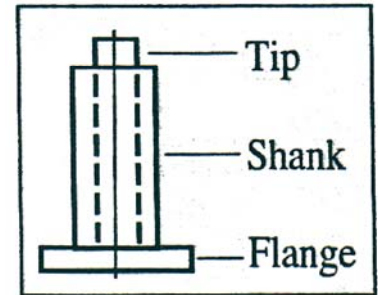

Fig.1
A. Tires may have street studs up to and including 38 studs per lineal foot of running surface. Studs shall conform to the diagram Fig.1 and specifications as set out in these rules (No upward tolerance of these dimensions is permitted).